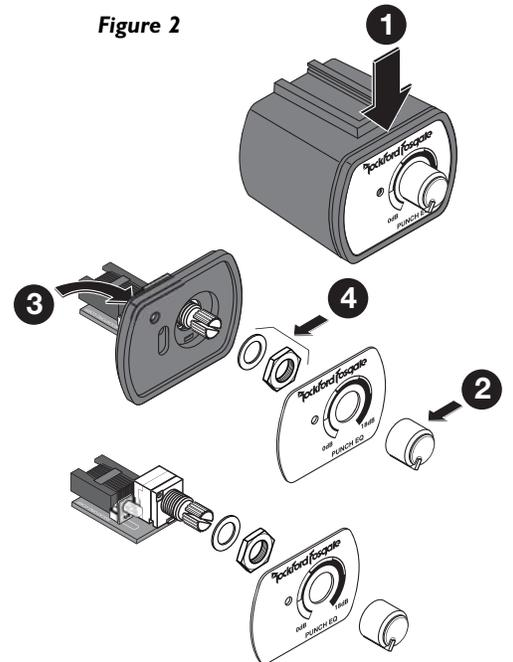

Figure 3
1. Remove the LED from the remote assembly by pulling straight up, figure 3